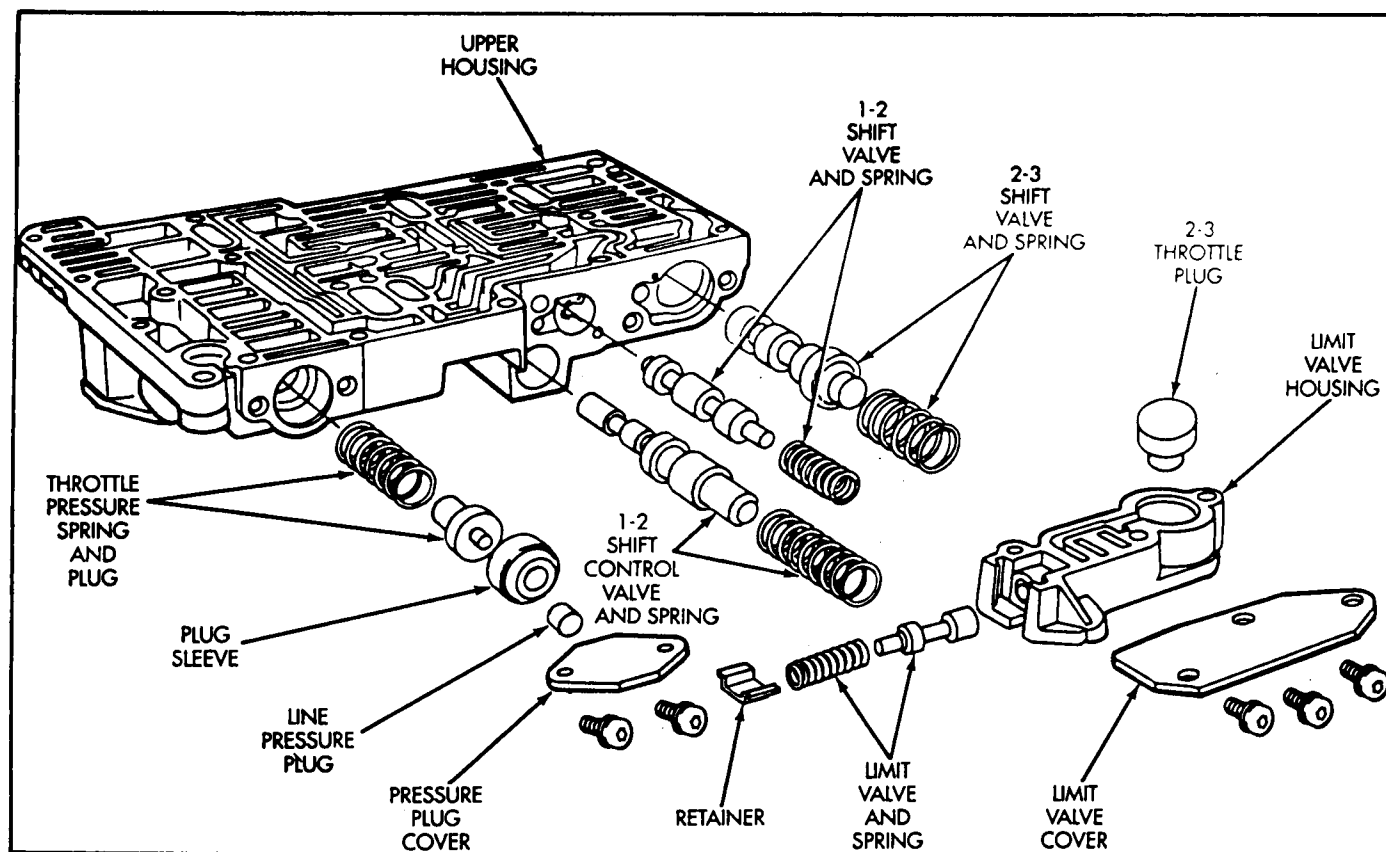

Figure 88
1. Position upper valve body housing with worm track side facing up and the shift valve side facing as shown in Figure 88.
2. Install throttle pressure spring and valve, line pressure plug and sleeve, and cover plate as shown in Figure 88. Torque cover plate screws to 35 in.lbs.
3. Install limit valve, limit valve spring and retainer into limit valve housing, as shown in Figure 88.
4. Install 2-3 throttle plug into limit valve housing (See Figure 88).
5. Install 1-2 shift control valve and the spring into upper housing (Figure 88).
6. Install 1-2 and 2-3 shift valves and springs in upper housing (Figure 88).
7. Install limit valve housing assembly on top of the 3 springs, compress and install 3 screws with cover plate, as shown in Figure 88.